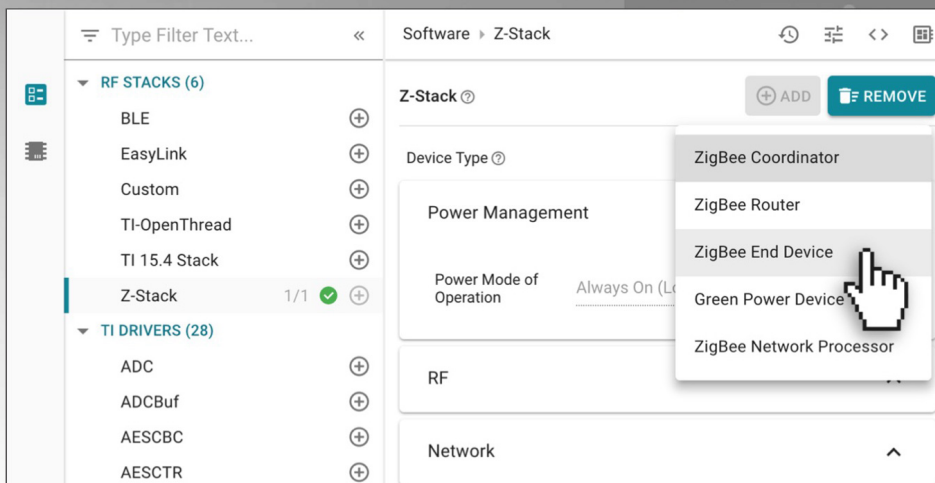

Figure 2. An example stack configuration view
SysConfig’s device view is useful for custom hardware development with a similar level of information. Software views, such as the one shown in Figure 2 for Z-Stack configuration, provide a comprehensive view of configurable parameters. A list of options is displayed for each parameter (Zigbee device type in this example). The default setting is being changed from Zigbee Connector to Zigbee End Device with a simple mouse click. Hover over the “?” icon with a mouse and additional details on these parameters will be displayed while the newly updated software will be shown in the preview pane. With this initial release, SysConfig supports the configuration of pins and drivers for most SimpleLink™ MCUs, including the configuration of radio-frequency (RF) parameters and stacks for wired and wireless communication technologies like Wi-Fi®, Ethernet, Bluetooth®, Zigbee®, Thread, 15.4 and EasyLink. It also supports multiprotocol configuration. You can easily update the default settings to quickly find the optimal combination of RF and stack settings for your use case. You can also export the parameters to other TI tools, including TI’s Smart RF™ Studio, for further testing and tuning.